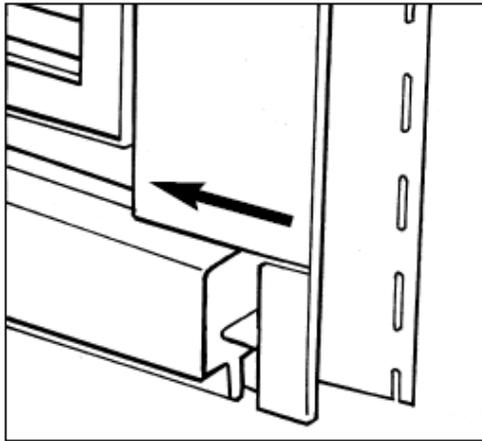

Figure 8
- 6) On the top, cut a 1" notch off the inside or starter side leg and an equal $\frac{7}{8}$ " notch out of the inside of the receiving pocket of the lineal. Trim foam down to the notches. (Figure 8)